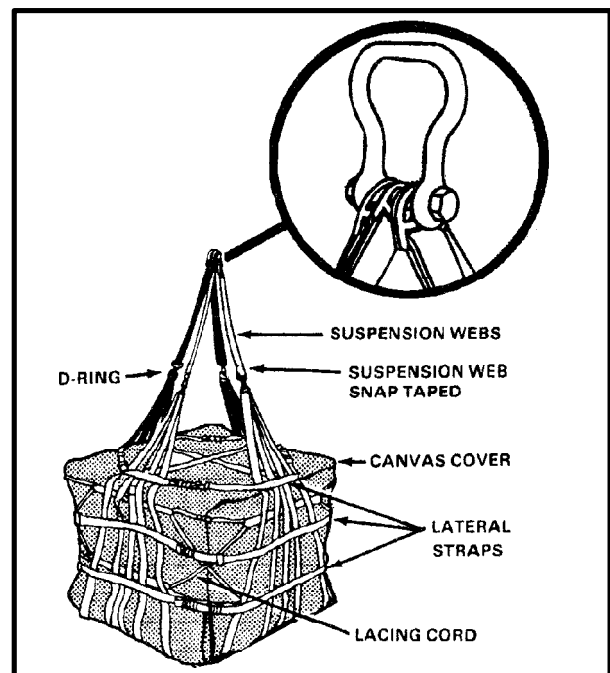

Figure 8-6. Upper Sling and Medium Clevis
g. **Attaching the Suspension Clevis.** Attach the four suspension web strap D-rings to a medium clevis in a clockwise sequence. Tape the nut with pressure sensitive tape. Each strap can have a maximum of one twist to connect to the clevis (Figure 8-6).